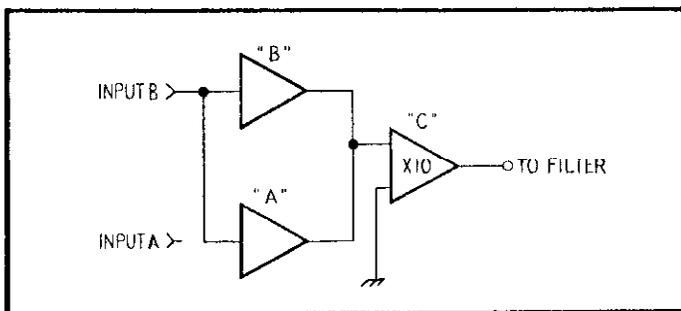

FIGURE 5. Single-Ended Mode.
b. Single-Ended Mode (-B INPUT). In this mode the input amplifiers are connected together to form a single-ended inverting amplifier as shown in Figure 5. The signal at INPUT B will be amplified and inverted. The signal at INPUT A is not connected. Amplifiers "A" and "B" are summed to provide very low noise characteristics.